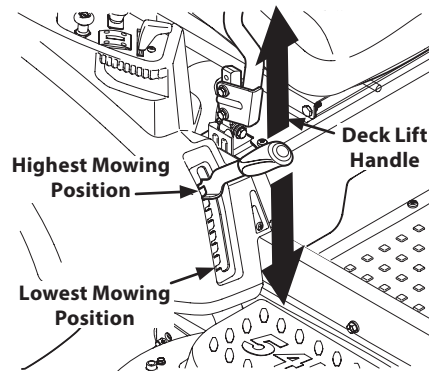

Figure 4-9
- Using the deck lift handle, raise the deck to the position that provides the most horizontal run of the belt between the deck idler pulleys and the PTO pulley on the bottom of the engine. See Figure 4-9.
- Lower the deck into the lowest mowing position using the deck lift handle. See Figure 4-9.
8. Place the deck lift handle into the highest mowing position and slide the deck out from beneath the tractor. See Figure 4-9.
1. Place the deck lift handle in the highest mowing position See Figure 4-9.